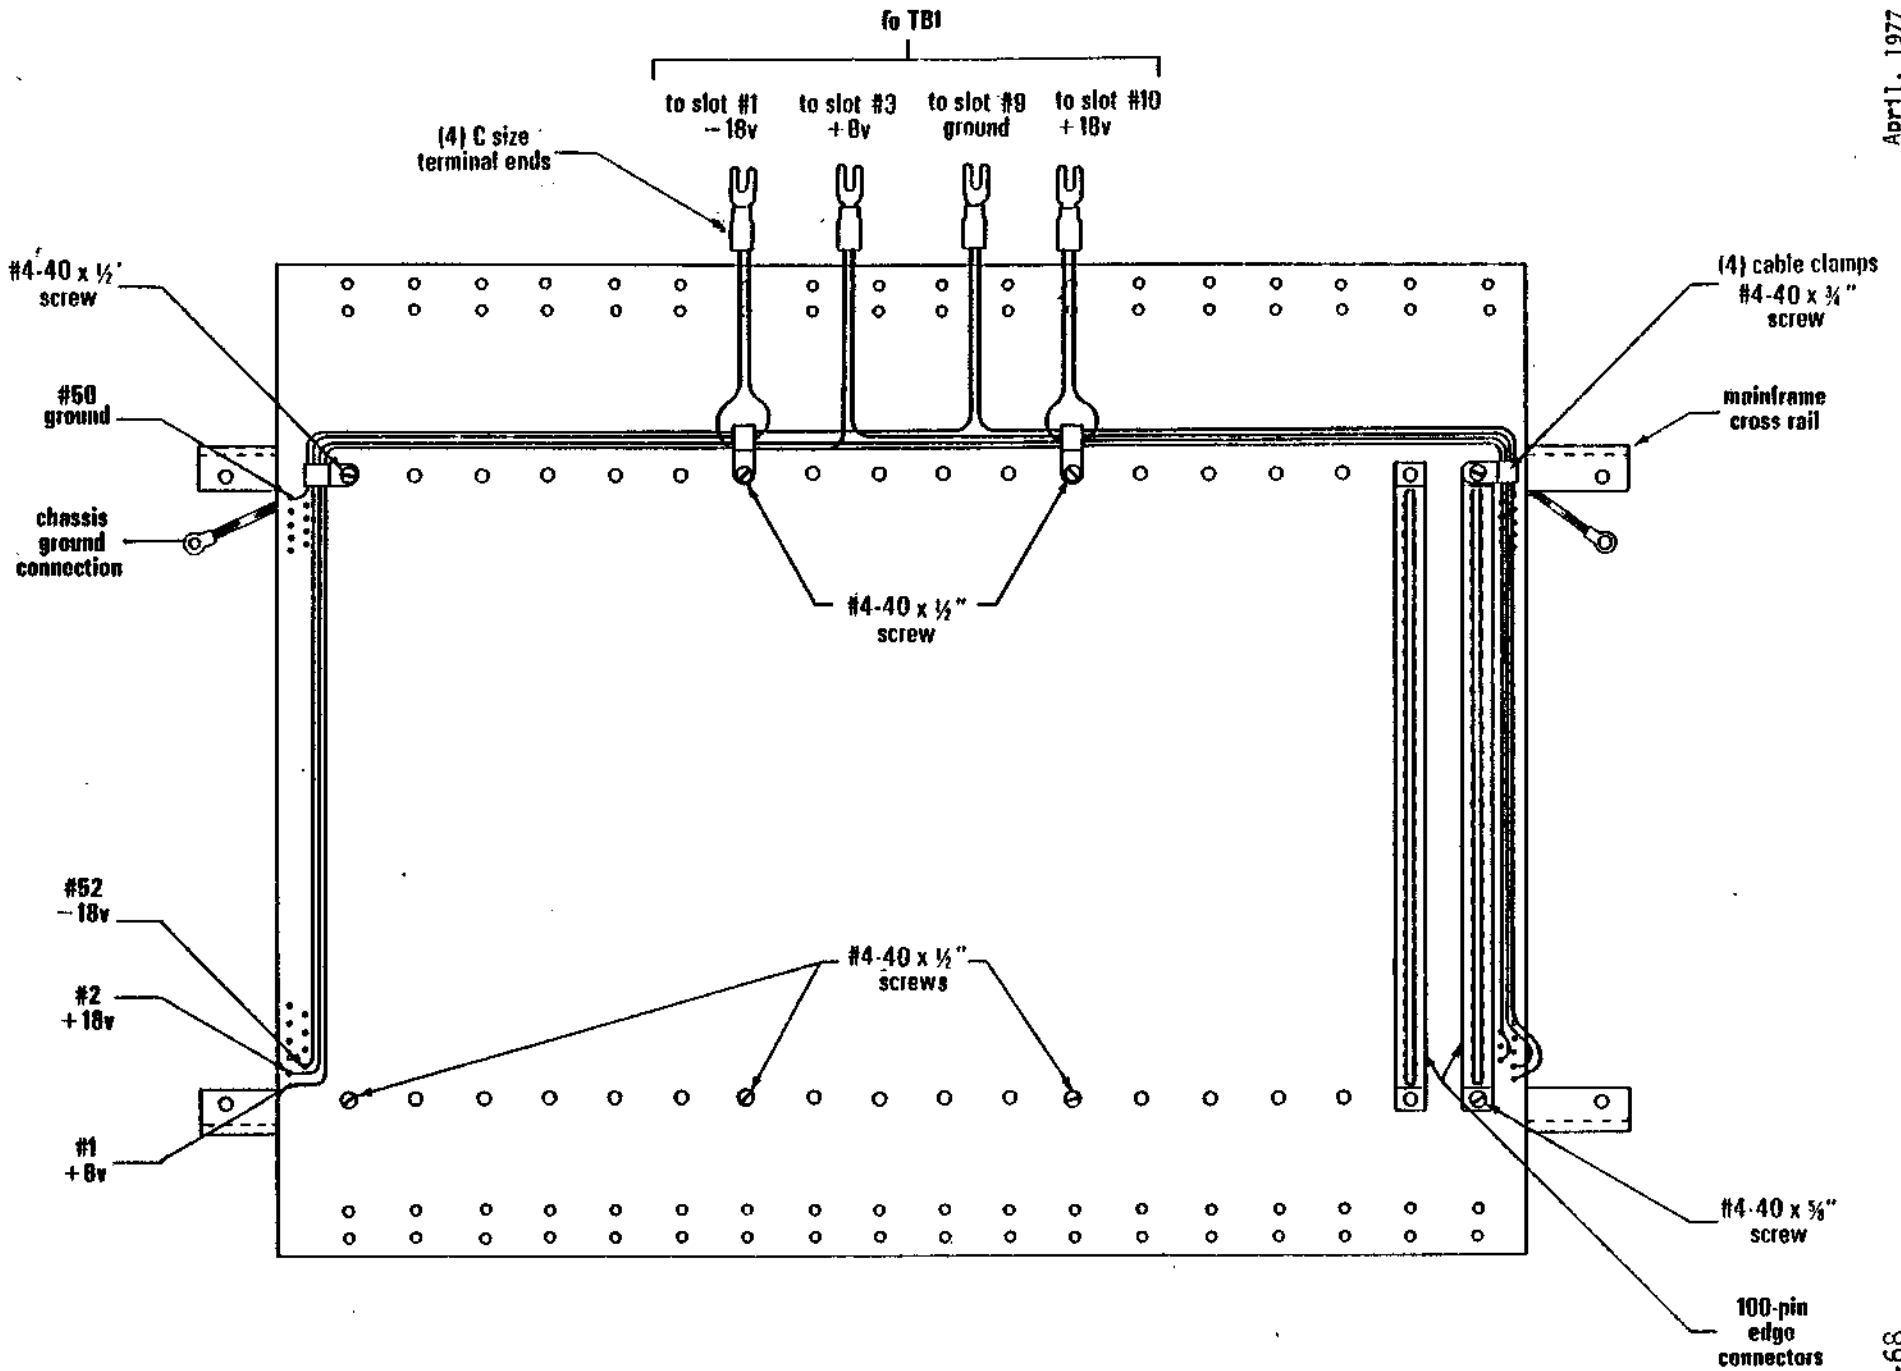

Figure 5-61. Motherboard Wire Connections
(Figure 5-61)
Refer to Figure 5-61. Note that the two outside rows of holes on either side of the motherboard each have four wire connections. These are the +8v, -18v, +18v and ground lines to the power supply from the bus. The wire connections are made by inserting the end of the wire from the top side of the motherboard and soldering it to the foil (bottom) side. On the foil side of the motherboard, hole #1 and hole #50 are marked on each side. Complete the wire connections according to the following instructions:
(Figures 5-61 and 5-62)
At this time, the edge connectors, cable clamps, mainframe cross rails, and card guides will all be assembled onto the motherboard according to Figures 5-61 and 5-62 and the following instructions.
1. Position the two 100-pin edge connectors on the motherboard as shown in Figure 5-61. Carefully insert the connector pins into their respective holes. If necessary, guide some of the pins with the tip of a small screwdriver. Be sure that the connector is tight against the board and that all 100 pins have been inserted. Solder each connector pin to the foil pattern on the bottom of the board.
3. Remove the two cross rails from the mainframe. Mount the cross rails to the bottom of the motherboard using eight screws, positioned as shown in Figure 5-61. Attach cable clamps to the four back mounting screws and run the bus wires through the cable clamps before tightening the screws down.
4. Match up the four pairs of bus wires at the back of the motherboard as shown in Figure 5-61. Attach a size C terminal end to each pair. Make sure the correct wires have been paired off: